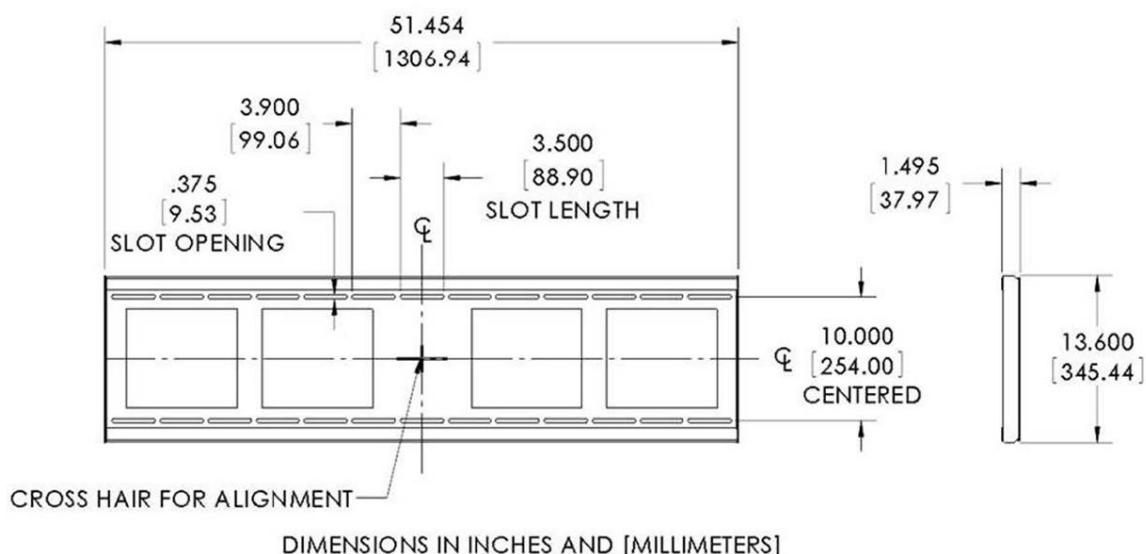

Figure 3. Wall bracket dimensions
2. It is recommended that the center of the bracket be 55" from the floor; measure and mark this dimension. Note that the center of the bracket (the "cross hair" as seen in figure 3) aligns with the vertical center of the device. Also ensure that the wall bracket is level before hanging the device.